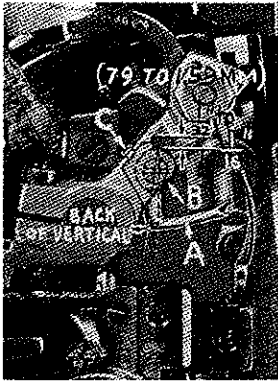

Fig. 7A
Insert upper spreader (A, Fig. 7A) in its holder. Screw (B) holds upper spreader in its holder and permits it to be pushed in or out, or turned around its shank. Insert upper spreader holder into upper spreader shaft (if not already in place). Screw (C) on the clamp holds the upper spreader holder in the shaft. Locate upper spreader in its holder so that the shank extends $1/32$ to $1/16$ inch (.79 to 1.59 mm) beyond holder (Fig. 7A).